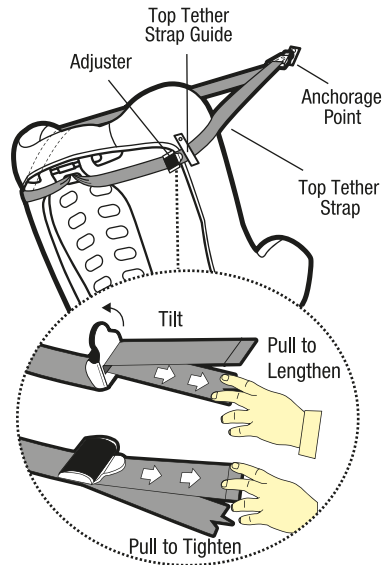

Figure 7
**Step 7:** Pull to tighten to remove all the slack, from the upper anchorage strap. Do not overtighten as this could cause the restraint to lift off the vehicle seat (refer to Figure 7).